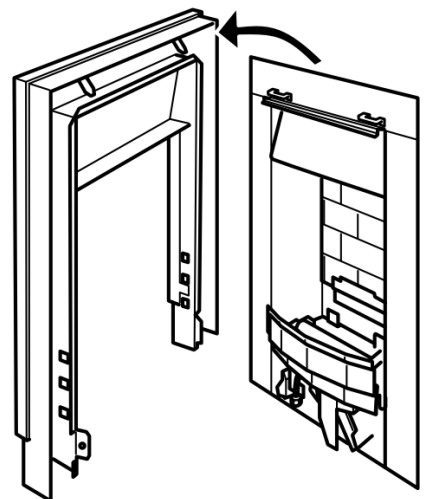

Figure 42. Fascia removal (Shown with 'Chic' fascia)
4. **Make sure that the control linking bar has been detached (See point 2).** Carefully lift the fascia unit upward to clear the upper retaining brackets on the hotbox (See figure 42). Pull the fascia clear and place carefully aside.